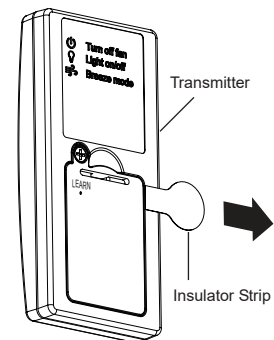

Fig. 18
Step 2. Carefully pull the insulator strip out of the transmitter to activate the preinstalled CR2032 3V button/coin cell battery. Discard the insulator strip. (Fig. 18)